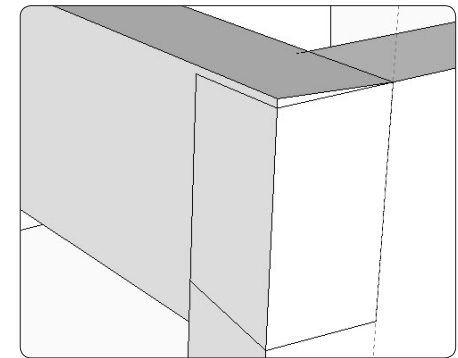

Figure 11. Outline the tiny triangular sliver at the top of the stretcher.
Step 6 Since the stretcher component is rectangular in cross-section, it needs to be moved slightly so that its back edge is flush with the top edge of the step. Place a guide line on the side component to help nudge the corner of the stretcher up to the edge of the side, using the Move/Copy Tool. As Figure 11 shows, there is a small triangular sliver on the stretcher that needs to be planed